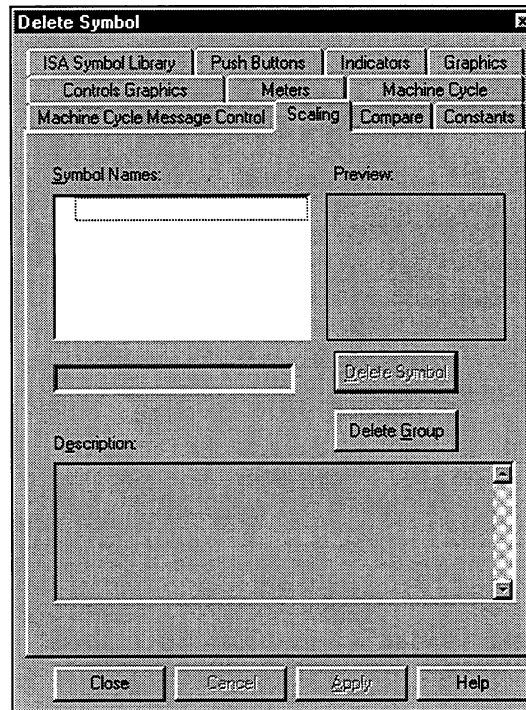

Figure 8-11. Delete Symbol Dialog Box
1. Select the Delete Symbols command on the Symbol menu in the Graphic Editor or click on the Delete Symbols button. The Delete Symbol dialog box opens, as shown in Figure 8-11.